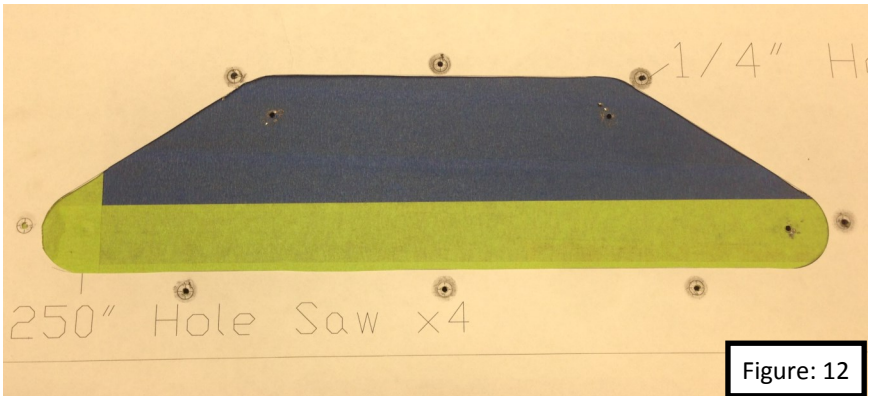

Figure: 12
16. Cut out the center of the vent template. Figure: 12